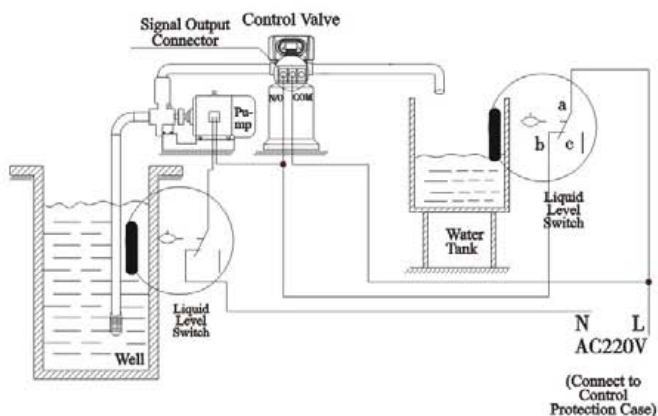

Figure 3-5 Wiring of Liquid Level Controller Controlling Inlet Pump
**Instruction:** For the system using well or middle-tank supplying water, switch of liquid level controller and valve together control pump opening or closing. The wiring refers to Figure 3-5: